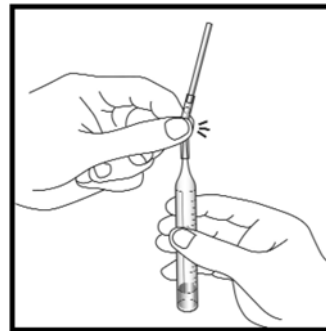

Figure 3
3. Gently snap the tip of the ezSample Snap Vial (ampoule) at the white ring nearest the end of the tapered tip (Figure 3).